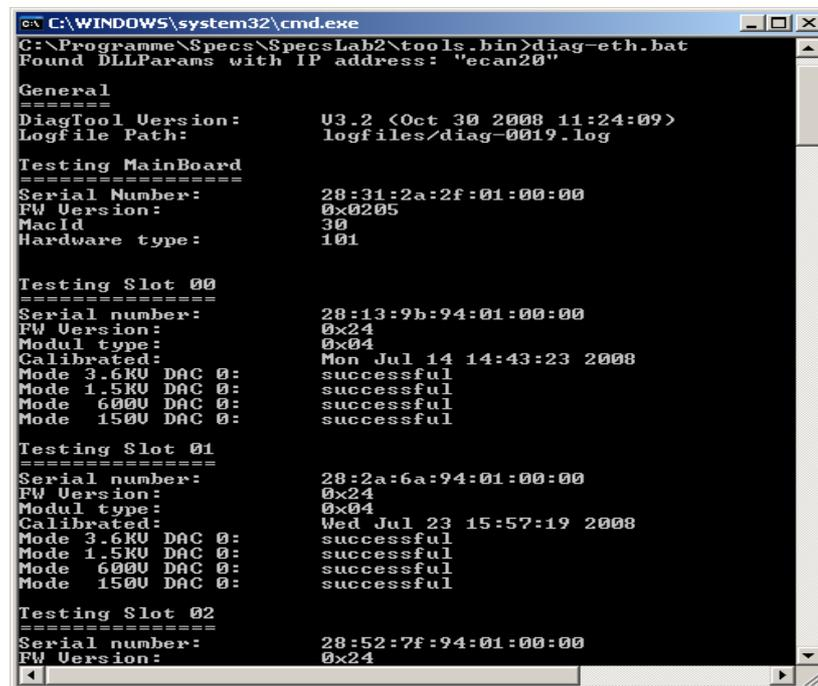

Figure 10: DiagTool command box
4. DiagTool started the procedure and shows results (error, warning or successful) for every mode and module on the command box (see Figure 10). You get a summary for all errors at the end of this test.